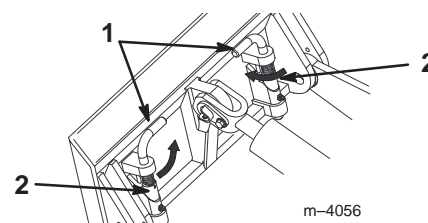

Figure 15
8. Engage the quick attach pins (Fig. 15).
9. Ensure that the cam collars are seated on top of the cast pin brackets (Fig. 15).